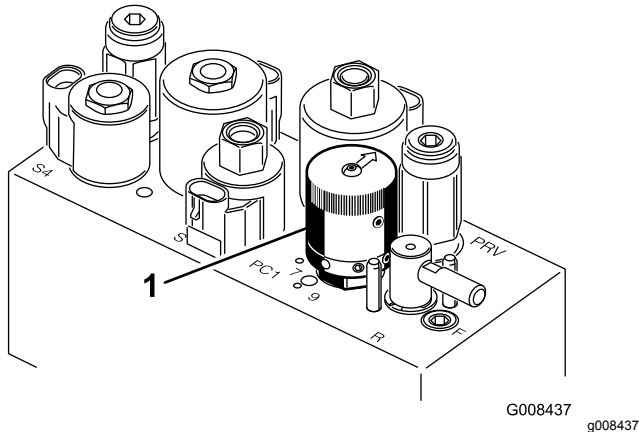

Figure 29
- To set the reel speed, rotate the knob (Figure 29) until the indicator arrows are in line with the number designating desired setting.